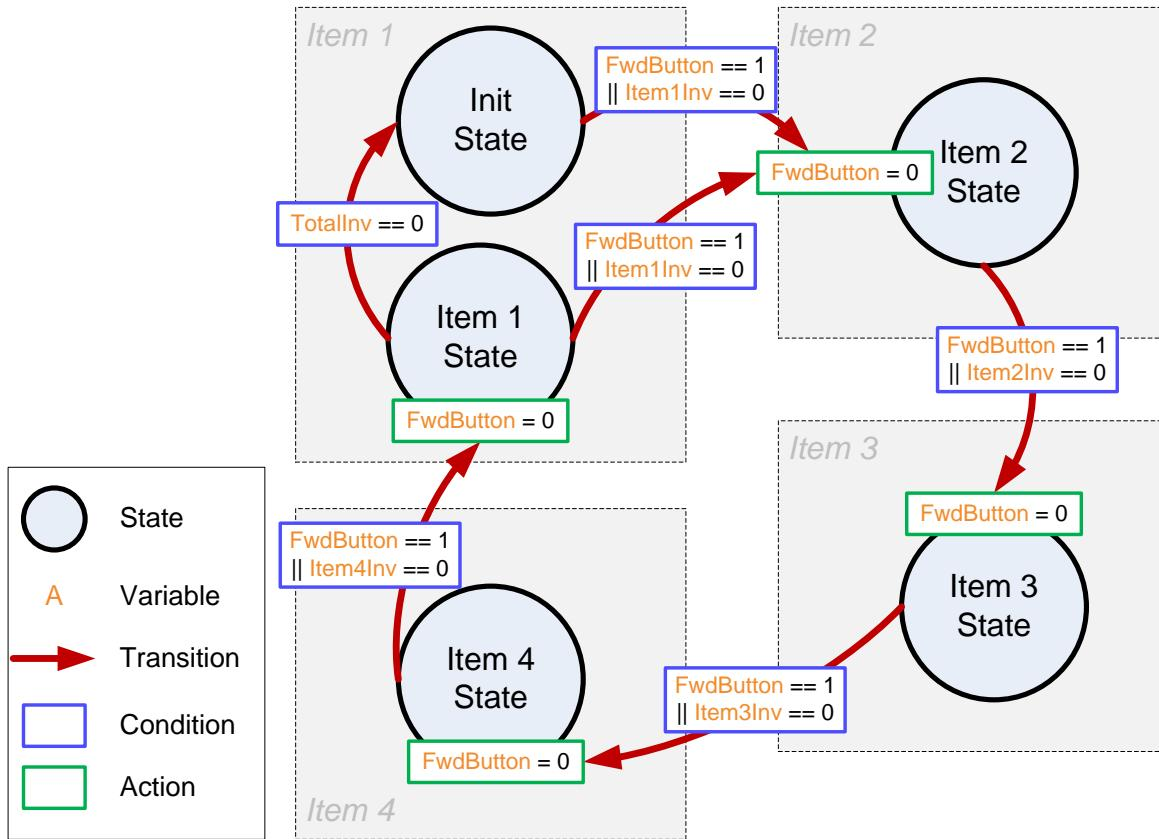

Figure 64: State Transition Map of Vending Machine Example
The vending machine operates in a complex motion sequence. It features many interfaces to buttons as well as conditional state transitions. The entire motion sequence can be implemented in SpinTAC™ Position Plan. Figure 64 shows the state transition map for the vending machine.
- In the function ST_setupPosPlan, find the lines highlighted in Figure 64. Comment out each line. This will not reset the value for “gVendFwdButton” when exiting a state.